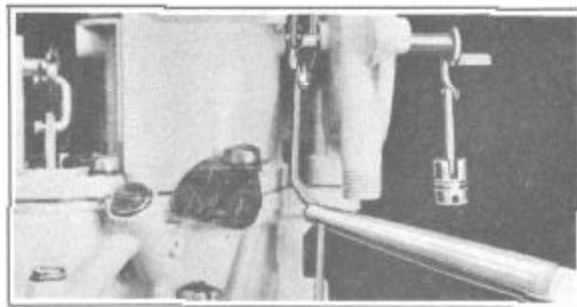

FIGURE 49
25. With choke lever, screw and link assembly in place, install choke shaft and piston assembly, Figure 49. Check for loose lever on shaft.